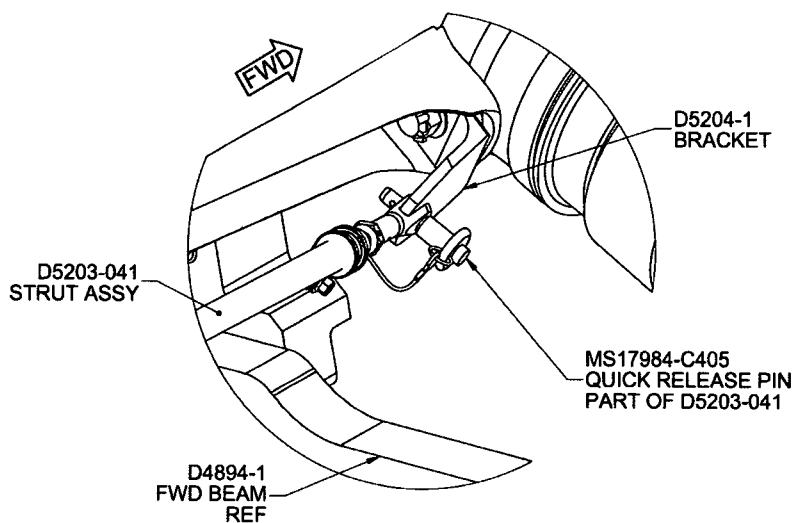

FIGURE 2. D5204-1 BRACKET INSTALLATION
- 3.3 Install D5203-041 Strut Assy onto D5204-1 Bracket and D5205-1 Bracket by connecting 2x MS17984-C405 Quick Release Pins as shown in Figures 2 and 3. Make adjustments to the AN665-34R threaded clevises and lock with NAS509-4C jam nuts. Secure the NAS509-4C jam nuts using lock wire per AC 14.13 or MS33540. After adjustment, use lockwire in the hole of the AN665-34R clevises to check for proper engagement of threads. It is acceptable to flip MS17984-C405 Quick Release Pin orientation as shown in Figures 2 and 3 to facilitate D5203-041 Strut Assy installation.